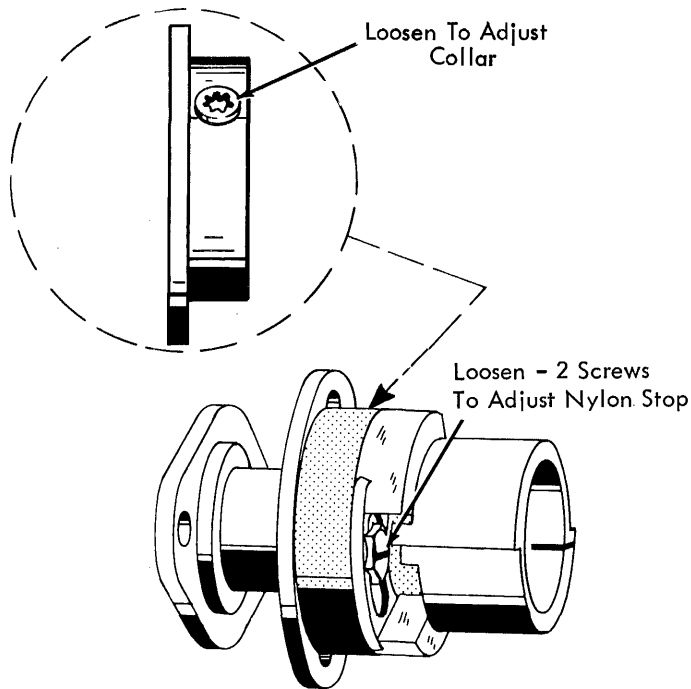

FIGURE 92. Cycle Clutch Overthrow Stop, Early Style
4. Cycle Clutch Overthrow Stop - With the cycle clutch latched and the cycle shaft backed up against the check pawl in its rest position, advance or retard the overthrow stop on the cycle clutch collar so that it will allow the cycle shaft to overthrow its latched position by .007" to .015" (Fig. 91 or Fig. 92).